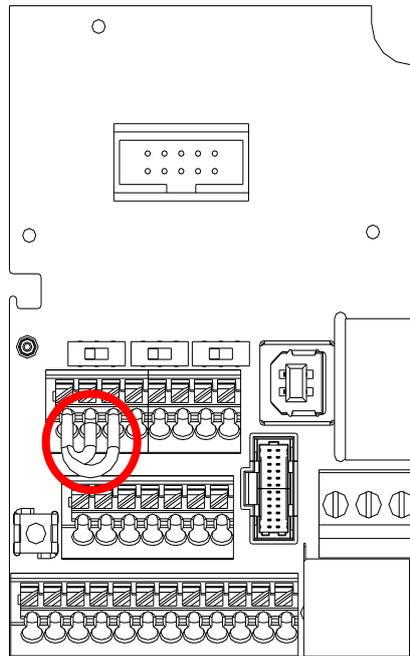

Figure 17-2
- Figure 17-2 shows the internal circuit diagram of the safe control loop.
- The terminals of the safe control loop +24V-S1-S2 are short-circuited together with the jumper wire at the factory, as shown in Figure 17-2.